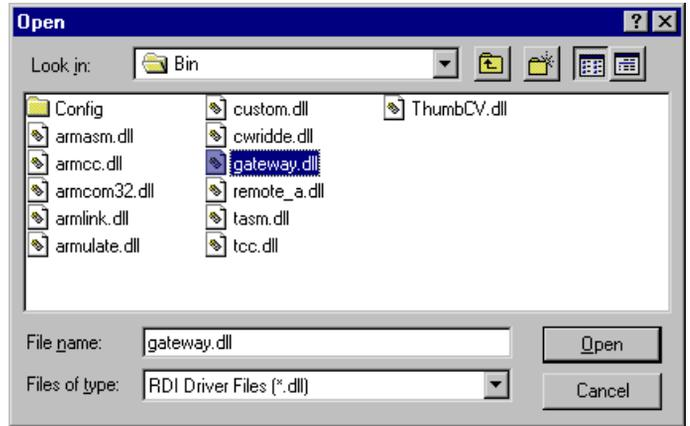

Figure 2 Adding the gateway dll
- Click **Add...**. A standard file dialog is displayed (Figure 2)